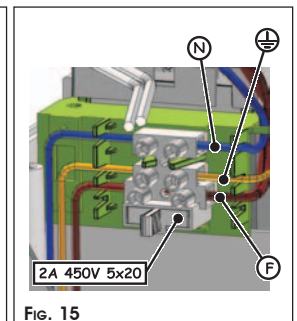

Fig. 15
- ② Connect the power cable, as shown in Fig.15. The earthing wire must also be connected. Make sure that the power cable wires are correctly fitted in the 'comb' which restrains them Fig. 15.